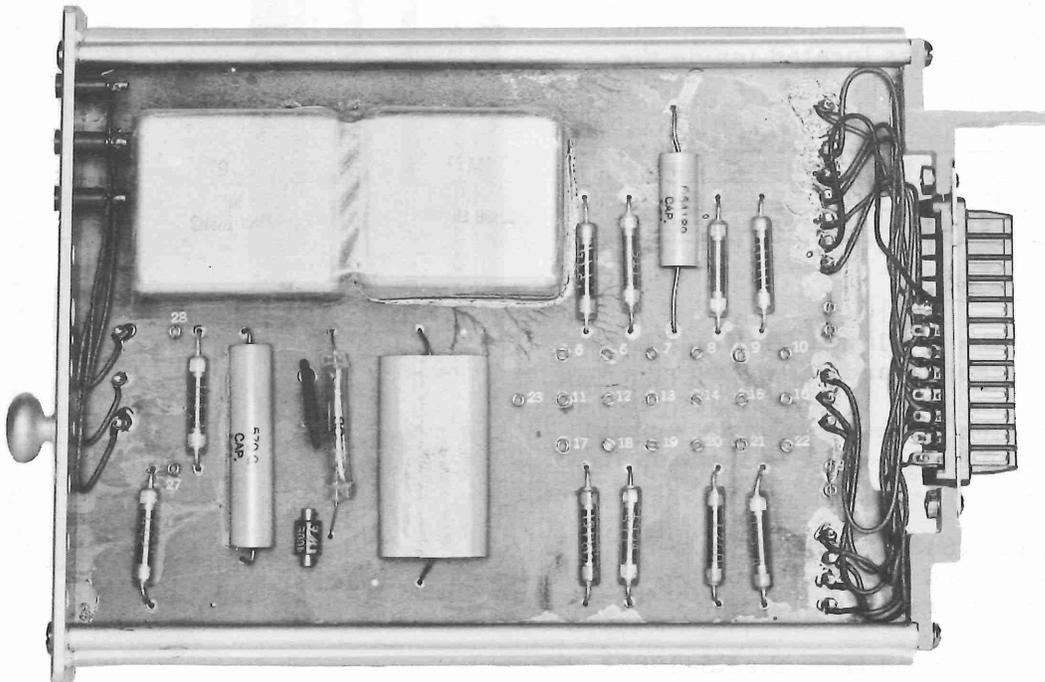

Fig. 3 - Hybrid Wiring Board
- The terminals of the wiring board are of the solderless type (Fig. 3). The wire is held in place by friction. Use a KS-19092, List 1 tool to make the connections.